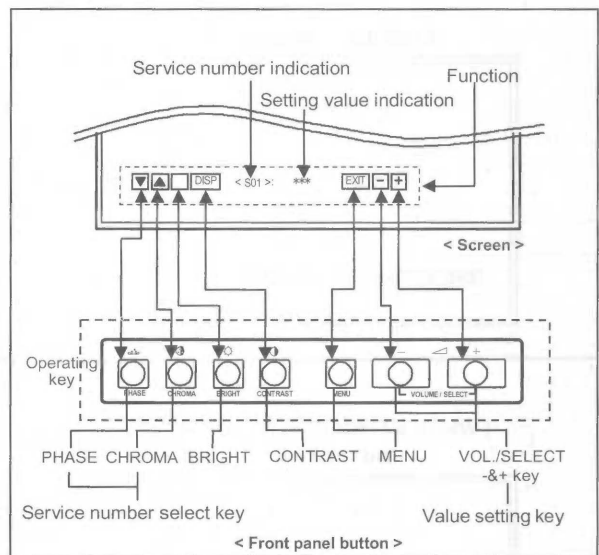

Fig. 6
(3) SETTING VALUE CHANGES
- While the adjustment mode menu is displayed. (Fig. 6)
- ① Press the + key to change the setting value in the + direction.
- ② Press the - key to change the setting value in the - direction.
- ③ Press the **PHASE** key or **CHROMA** key to select the service number.
(4) SERVICE MENU EXIT
- ① When settings are completed, press **MENU** key.
- ② The SERVICE MENU returns.
- ③ Again press **MENU** key.